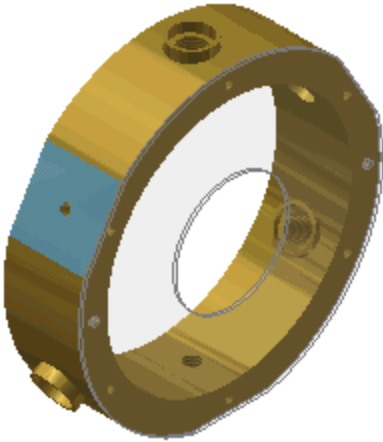

Figure 8: Sketch face on ring.
1. Return to the assembly, and then in-place edit Ring.ipt. Start a sketch on the face shown in Figure 8.